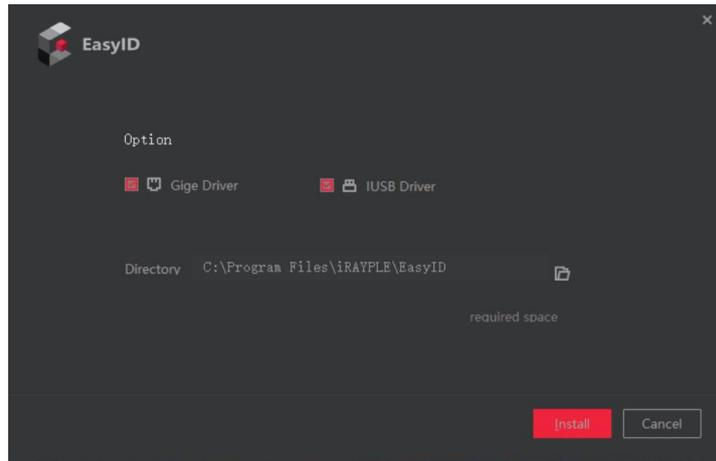

Figure 3-3 Drive and installation path selection
- 1、 Click "Configuration" in Figure 3-3 to enter the "Advanced" page, and set "Jumbo Packet" to the maximum value "9014 bytes".